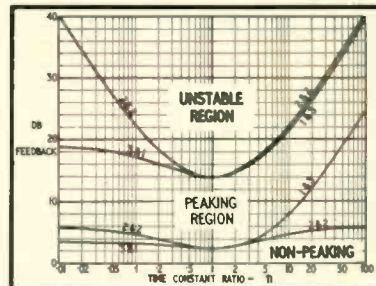

Fig. 8. Limit chart to aid in assessing performance of four-stage loops with non-identical time constants.
Curves of expressions (46), (47), (51), and (52) are plotted in Fig. 8. Naturally the two-pairs arrangements has symmetrical curves. The 3-and-1 combination (three acting before one) has lower boundaries than any other